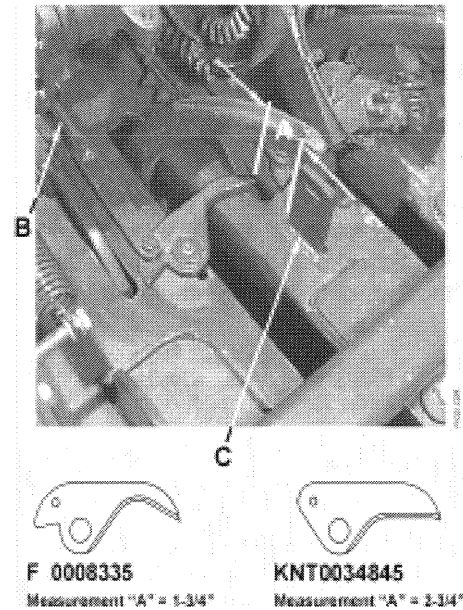

Fig.9
B. Continue to turn the flywheel clockwise until the twine fingers reach the far point of their travel. Measure the distance from the tip of the twine fingers back to the front of the knotter anchor "C." The measurement "A" should be $1\frac{3}{4}$ " for the F8335 Twine Finger or $2\frac{3}{4}$ " for the KNT0034845 Twine Finger. This adjustment is made by lengthening or shortening the twine finger drive rods "B," *Fig.9*.